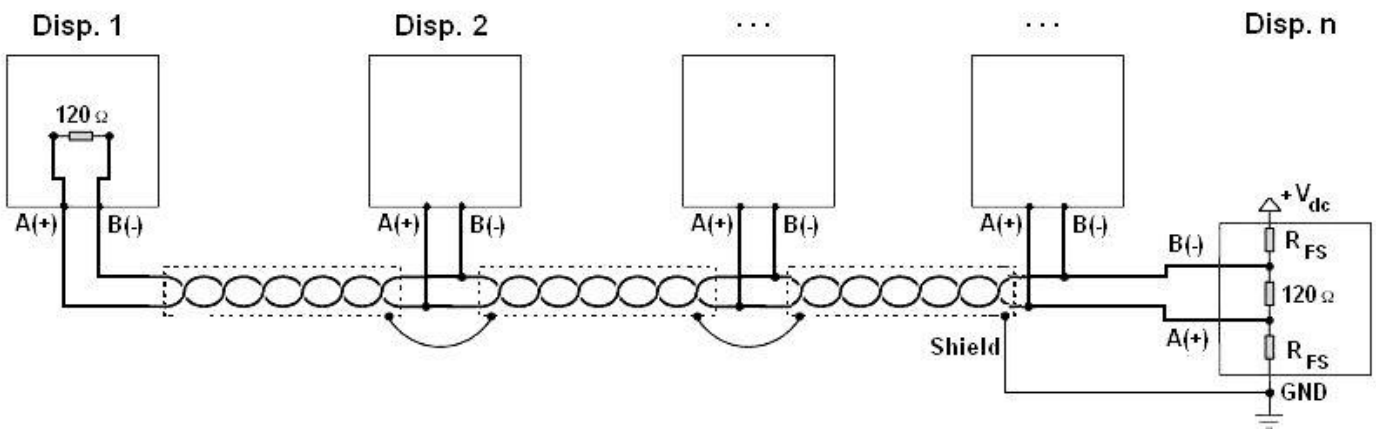

Figure 1: electrical diagram of RS485 connections.
- The shielding can be connected into a single point of the entire network (as shown in Figure 1) or both its ends, however it's important that **all the masses have the same potential**, in order to avoid the forming of current rings.
- On the RS485 network normally one connects 2 **termination resistances** equal to the characteristic impedance of the cable (typically 120 Ω, see Figure 1), **ONLY** on the 2 devices **which are at the 2 ends of the cable**. The terminal resistance is not supplied with the ports of the indicator.
To create a resistive divider which maintains this difference of potential also when all the transmitters are disabled, inert in the RS485 port of the indicator where there are the termination resistances, the **polarisation** or **fail-safe resistences** (R_{FS} in Figure 1). The value of these resistances is between 390 Ω and 2,2 kΩ.